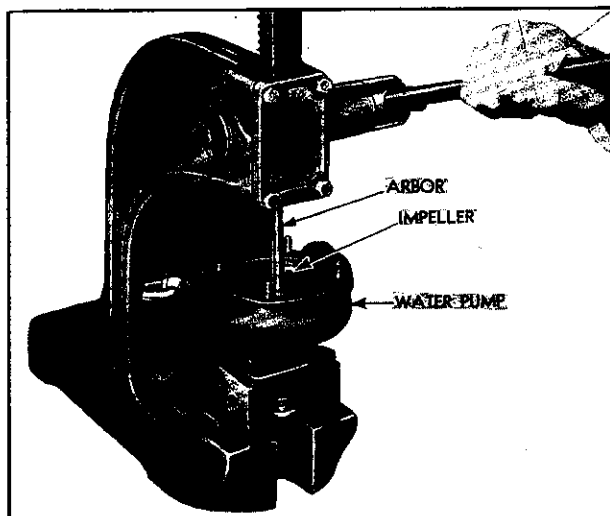

Fig. 7—Pressing Water Pump Impeller from Shaft.
2. Support the water pump in an arbor press flange down, as shown in Fig. 7, and press the shaft through the impeller. Shaft and bearing assembly will also be removed from the body during this operation. If the water seal only is to be inspected or changed, no further disassembly is necessary and the new seal may be installed and
3. Set impeller and seal assembly onto outer end of shaft; then support outer end of shaft on bed of arbor press and press impeller onto and flush with end of shaft. This operation is similar to removal of impeller as illustrated in Fig. 7.
4. Support impeller end of pump shaft on suitable arbor, and using brass hammer, drive coupling and oil thrower assembly (9) onto inner end of shaft, flush with end of shaft.